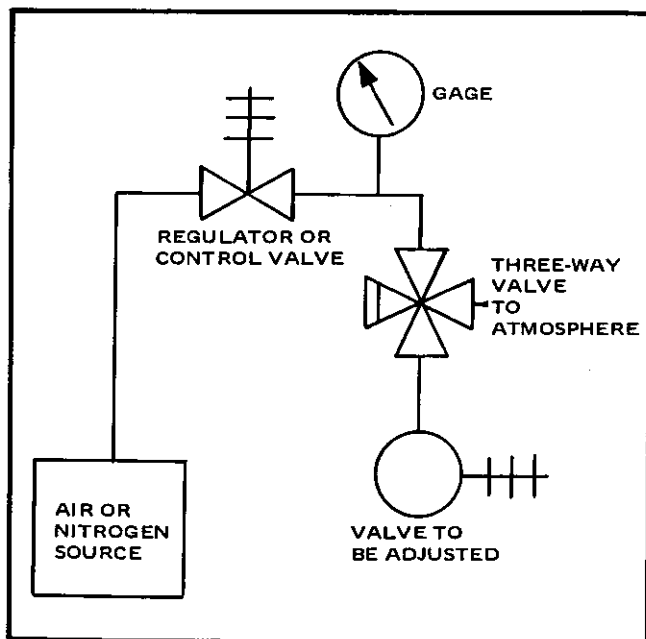

Figure 5-1. Safety Valve Test Setup
a. Connect the valve being tested to a test setup similar to that shown in figure 5-1.